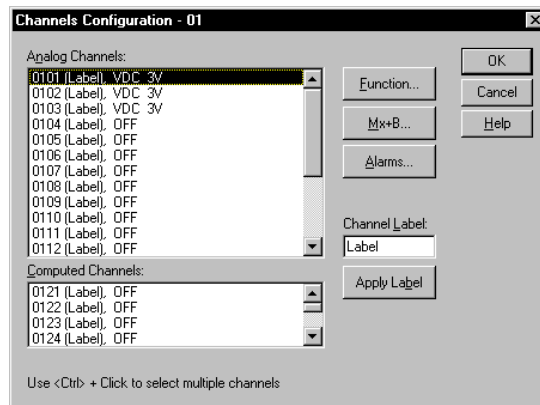

Figure 8.
3. Select channel 0101 in the Analog Channel box (ch #1 for Hydra). This represents Instrument # 01; analog channel #01. (Figure 8)